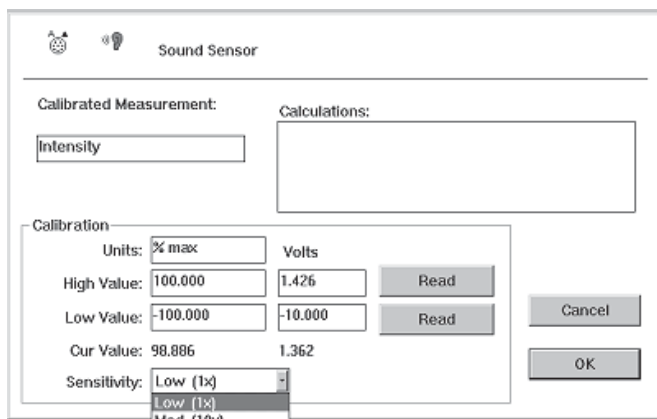

Figure 5. Dialog box for calibrating and adjusting the gain for the Sound Sensor in *ScienceWorkshop*.
- ② The sensitivity (gain) of channels A and B of the 300, 500, and 700 interfaces in *ScienceWorkshop* can be adjusted by selecting the appropriate level from the drop-down menu (Figure 5). If the Sound Sensor is producing voltage above 1 V, the sensitivity should be set to Low (1x). If the Sound Sensor is producing voltages between +1 V and -1 V, select Medium (10x). With the *ScienceWorkshop 700* interface, the sensitivity can be set to High (100x) if the voltage is very low (between +0.1 V and -0.1 V). Refer to the *User's Guide for ScienceWorkshop* for more details concerning calibration and adjusting the sensitivity setting.